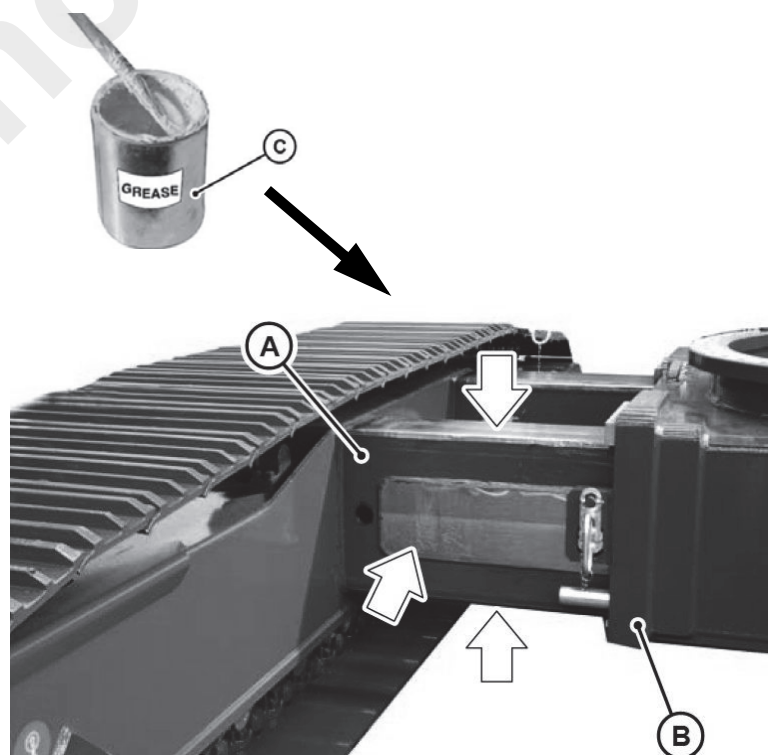

Fig. 24 Cleaning and lubricating the pull-out elements (A) and the center frame (B)
2	Remove accumulated contamination and old grease from all sides of the cross member (A) in Fig. 24 and the center frame (B) in Fig. 24. Clean surfaces with solvent!
3	Grease surfaces: Apply a thin coating of lubricating grease (C) in Fig. 24 using a brush.